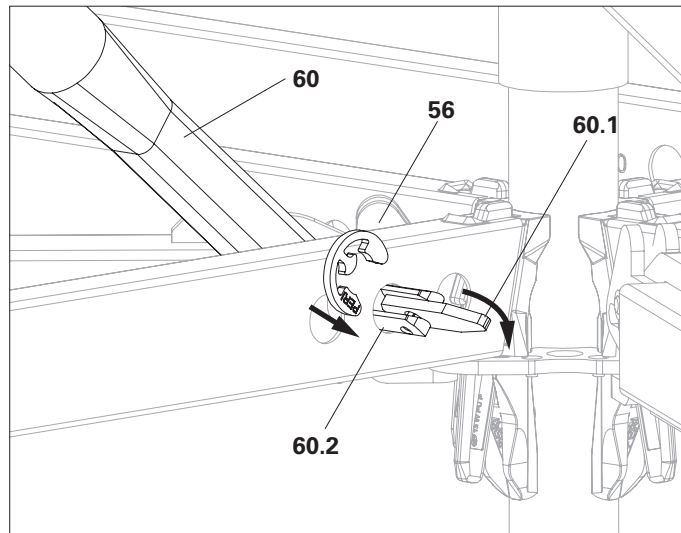

Fig. A4.05
2. Fit the Safety Washer UBL PEW in the direction of the tilt finger (**60.1**) over the tilt finger pin (**60.2**). Use a hammer, if necessary. (Fig. A4.05)